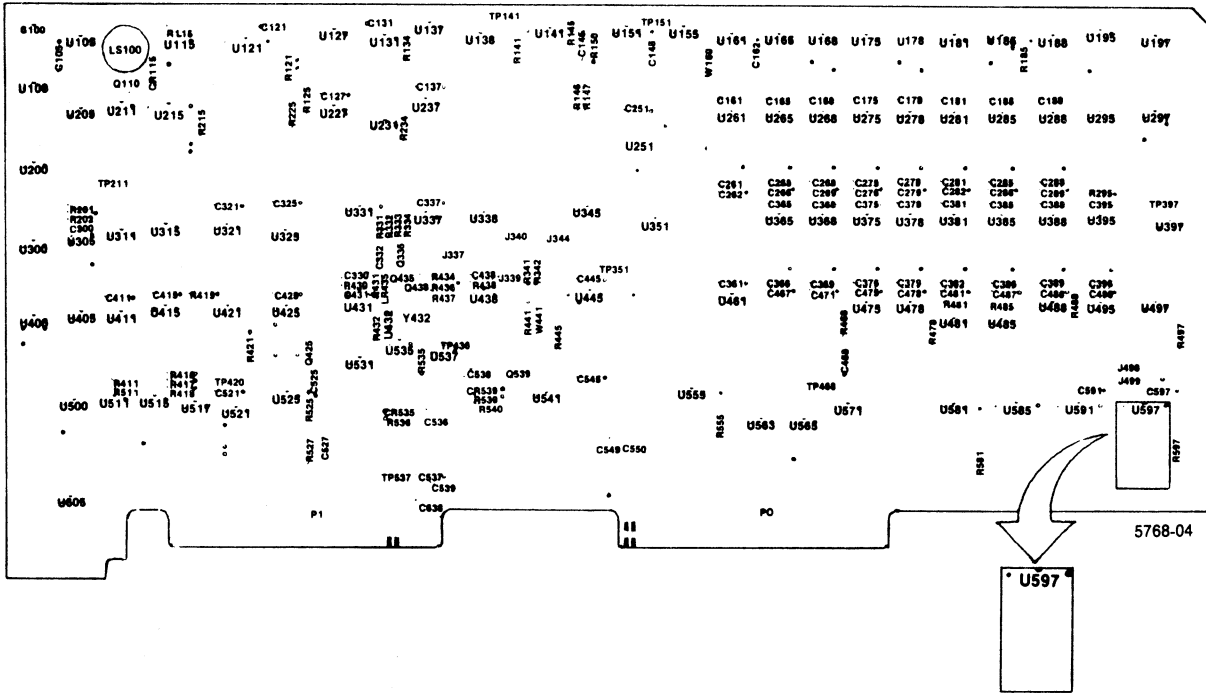

Figure B-4. ROM U597 location on the DAS Controller board.
4. Remove the patch ROM U597 located in the lower-right corner of the Controller board. Refer to Figure B-4. Be sure to notice the position of pin 1.